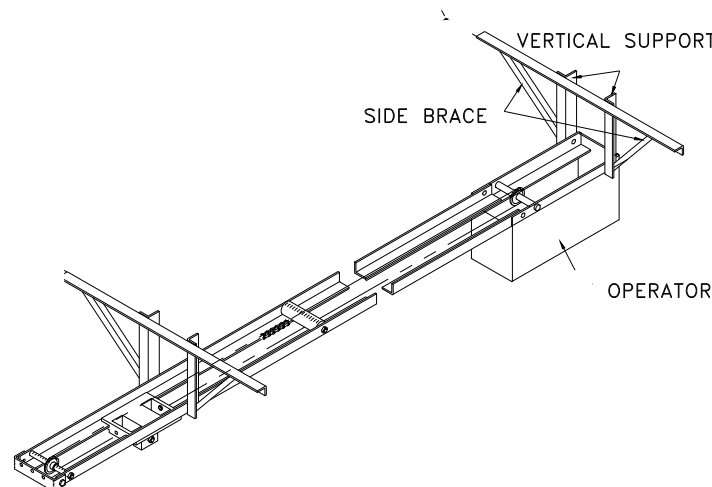

Figure 11 Location and installation of hangers and side braces
11. Hanging brackets may now be affixed from ceiling to operator (Figure 11). Two or more holes are provided in frame of operator for this purpose. Take care that unit remains centered over door during installation of hanger brackets. After vertical drops are made and secured, side braces should be installed.
12. Approximately 5 feet (1.5 m) from forward end of rails, locate set of 3/8" holes for angle iron braces to secure rails. Two drops pieces should be installed at this point to further strengthen installation (Figure 11).